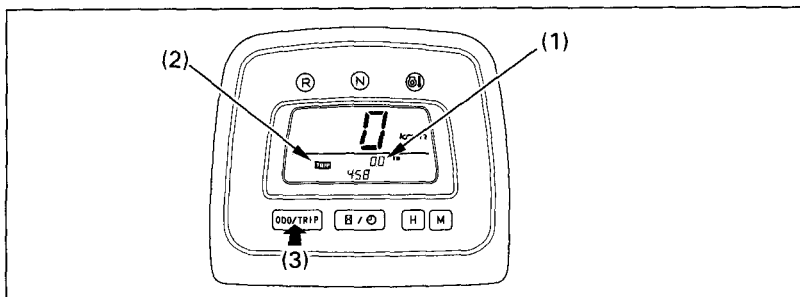

Fig. 2-17 (1) Tripmeter (3) Odometer/Tripmeter select button
When selected, the tripmeter (1) (Fig. 2-17) shows mileage per trip while the ignition is ON (I). To change the display (2) from odometer to tripmeter, press and release the Odometer/Tripmeter select button (3). To reset the tripmeter to zero, press the Odometer/Tripmeter select button and hold it in for at least two seconds.